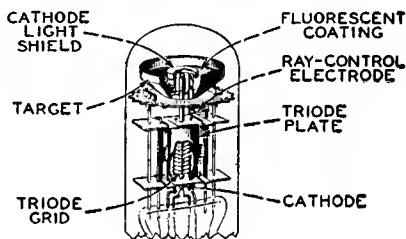

Fig. 60
Electron-ray tubes are designed to indicate visually by means of a fluorescent target the effects of a change in controlling voltage. One application of them is as tuning indicators in radio receivers. Types such as the 6U5, 6E5, and the 6AB5/6N5 contain two main parts: (1) a triode which operates as a dc amplifier and (2) an electron-ray indicator which is located in the bulb as shown in Fig. 60. The target is operated at a positive voltage and, therefore, attracts electrons from the cathode. When the electrons strike the target they produce a glow on the fluorescent coating of the target. Under these conditions, the target appears as a ring of light.